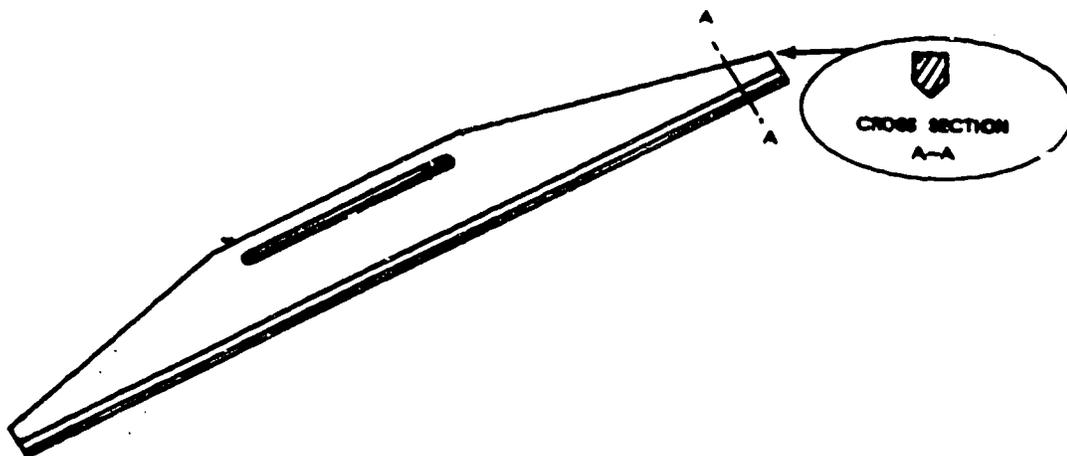

Figure 27. A Featheredge
Step 1. The first step is to apply the material to each side of each angle (corner). Use a featheredge to straighten (wipe out) the angles. Straight angles are important to the appearance of a finished plastering job. The featheredge is a tool similar to the straightedge. Figure 27 shows a featheredge. Apply putty coat mixture to the remainder of the wall so it will be about 1/8 inch thick.